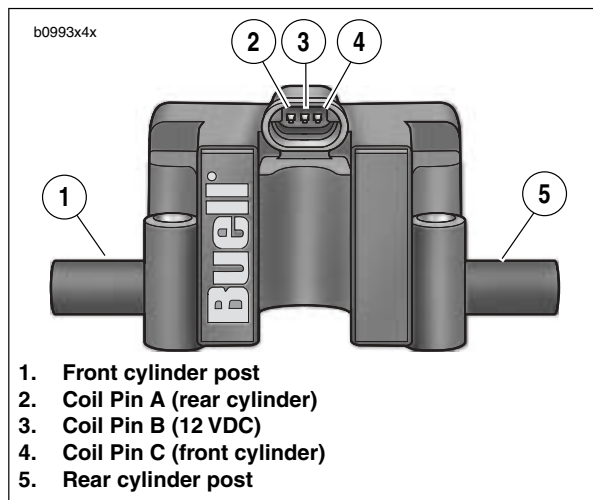

Figure 4-47. Ignition Coil
See Figure 4-47. The coil receives power from the ignition relay at coil pin B (3) at the same time that the fuel pump and injectors are activated.